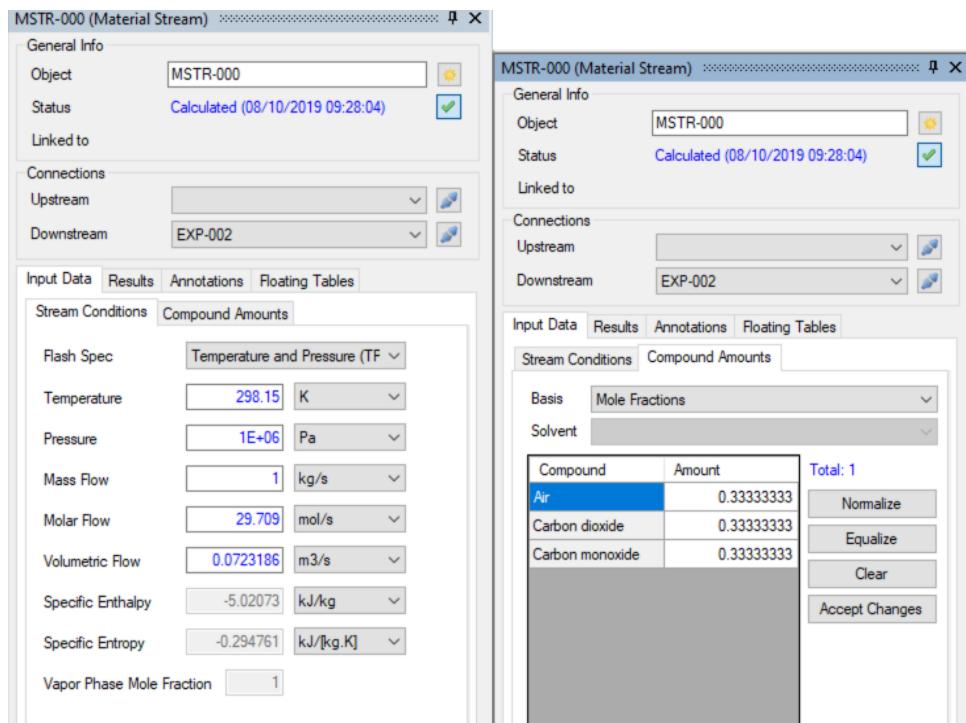

Figure 25: Viewing object properties in the editor window.
**Entering process data** The objects' process data (temperature, pressure, flow, composition and/or other parameters) can be entered in the property editor window (Figure 25). Properties that cannot be edited (read-only) are grayed-out.